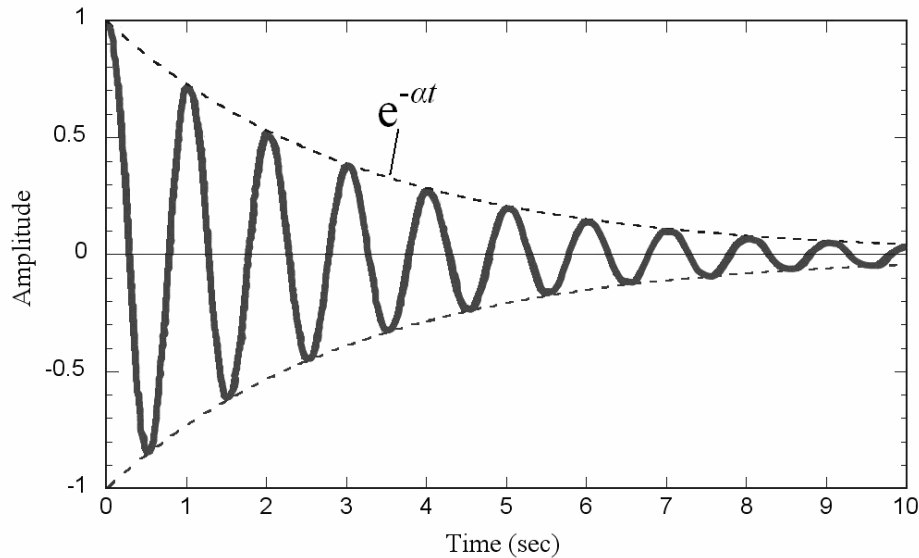

Figure 2: Underdamped Motion. The oscillations are
We will study underdamping in this experiment, so the motion will look like that shown in Figure 2. This motion is described by
The angular frequency ω term in Eq. (9) is slightly different than the free frequency of Eq. (5), but the difference is too small to be seen in our experiment (so we will ignore it). The $\cos \omega t$ term is observed in Figure 2 (oscillating term), but the amplitude of each oscillation becomes smaller due to the exponential damping term $e^{-\alpha t}$.